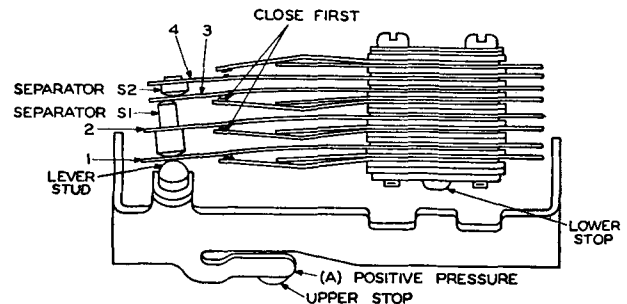

Fig. 2—Plungers Released
3.07 Contact Sequence—Set Contacts: Observe that the contact sequence for spring assemblies with two or three operating springs in the same pile-up are as indicated on Fig. 1 and for spring assemblies with four operating springs in the same pile-up as indicated on Fig. 2. The contacts on spring 1 shall have a perceptible separation after the contacts associated with springs 2 and 3 have closed. Gauge by eye. If these conditions are not met replace the set.